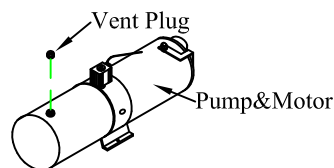

Figure 18: Vent plug.
- 2. Unscrew** the solid plastic plug from the pump reservoir and **Install** the vent plug provided (Figure 18).